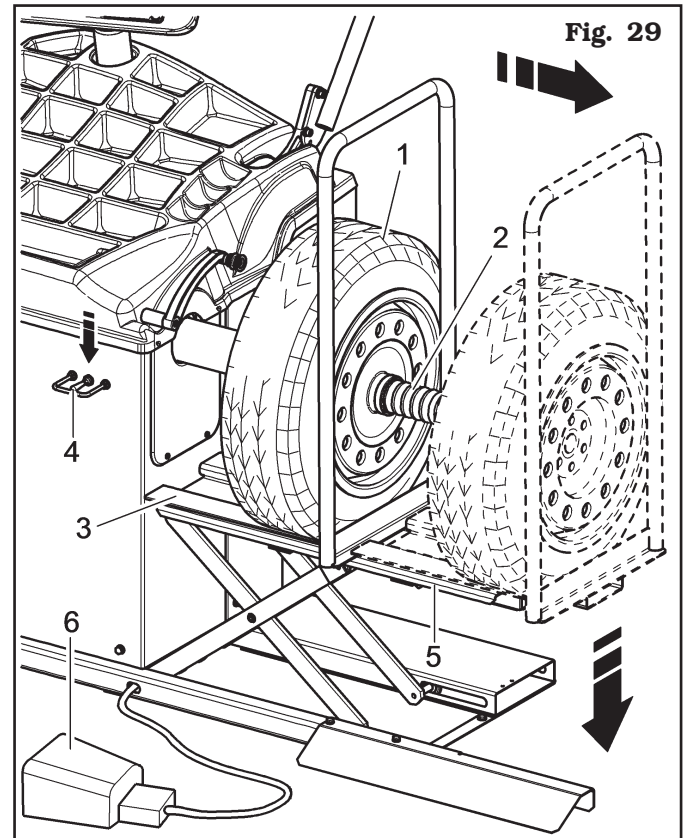

Fig. 29
3. Unlock the wheel (**Fig. 29 ref. 1**) engaged to the mandrel, removing the locking devices (**Fig. 29 ref. 2**).
4. Move rightwards the wheel support (**Fig. 29 ref. 3**) together with the tyre that is leaning against it.
5. Lower the lowering device control (**Fig. 29 ref. 4**) and then lower the footboard (**Fig. 29 ref. 5**).
6. Open the pneumatic mandrel by pressing the special pedal, see (**Fig. 29 ref. 6**).